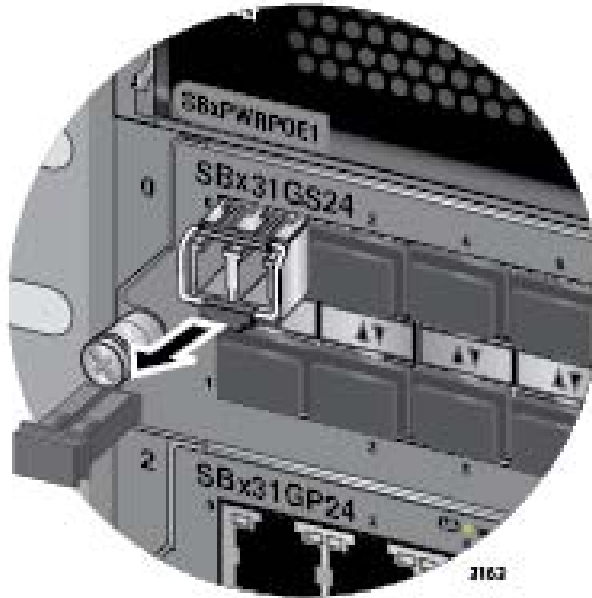

Figure 85. Removing the Dust Cover from the SFP Transceiver in the AT-SBx31GS24 Line Card
- Remove the protective cover from the SFP transceiver, as shown in Figure 85 on page 148.